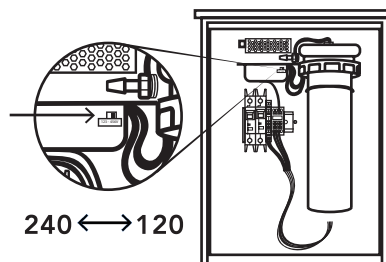

Figure 1: Ballast Electrical Switch
3. Toggle ballast switch between 120V and 240V to match required voltage. See Figure 1.
2. Toggle the ballast switch between 120V and 240V to match required voltage. See Figure 1.